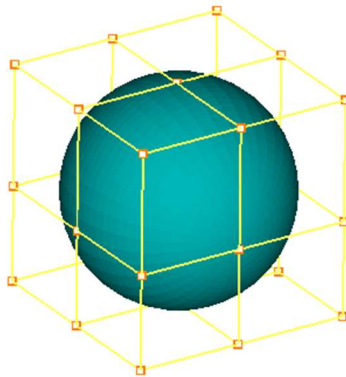

Figure 4.164: Topology where nesting cannot be applied
2. Nesting cannot be applied for 3D as it may encounter a singular point. As shown in Figure 4.164, it cannot be applied along 3D sheet.